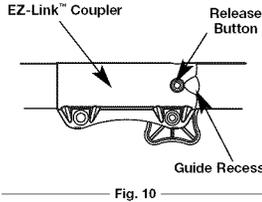

Fig. 10
2. Press and hold the release button (Fig. 10).
NOTE: Aligning the release button with the guide recess will help installation (Fig. 10).